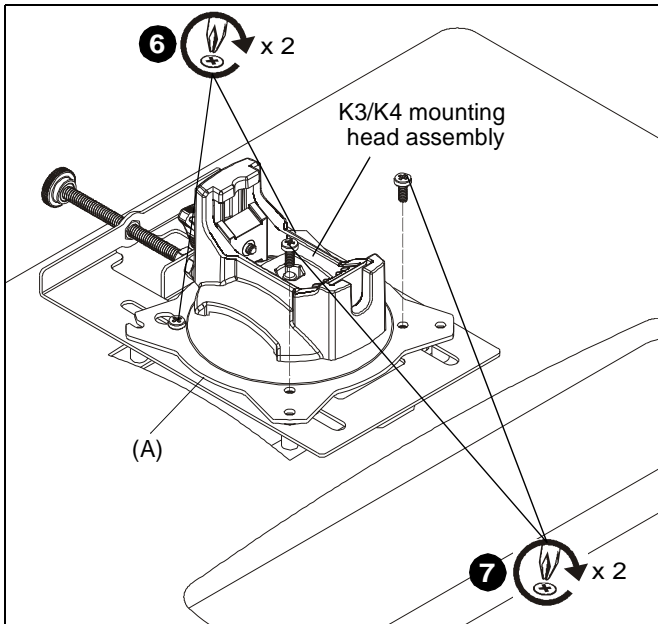

Figure 4
6. Tighten upper two screws. (See Figure 4)
7. Re-install two Phillips screws that were removed in Step 4 through lower inside mounting holes on K3/K4 head assembly. (See Figure 4)